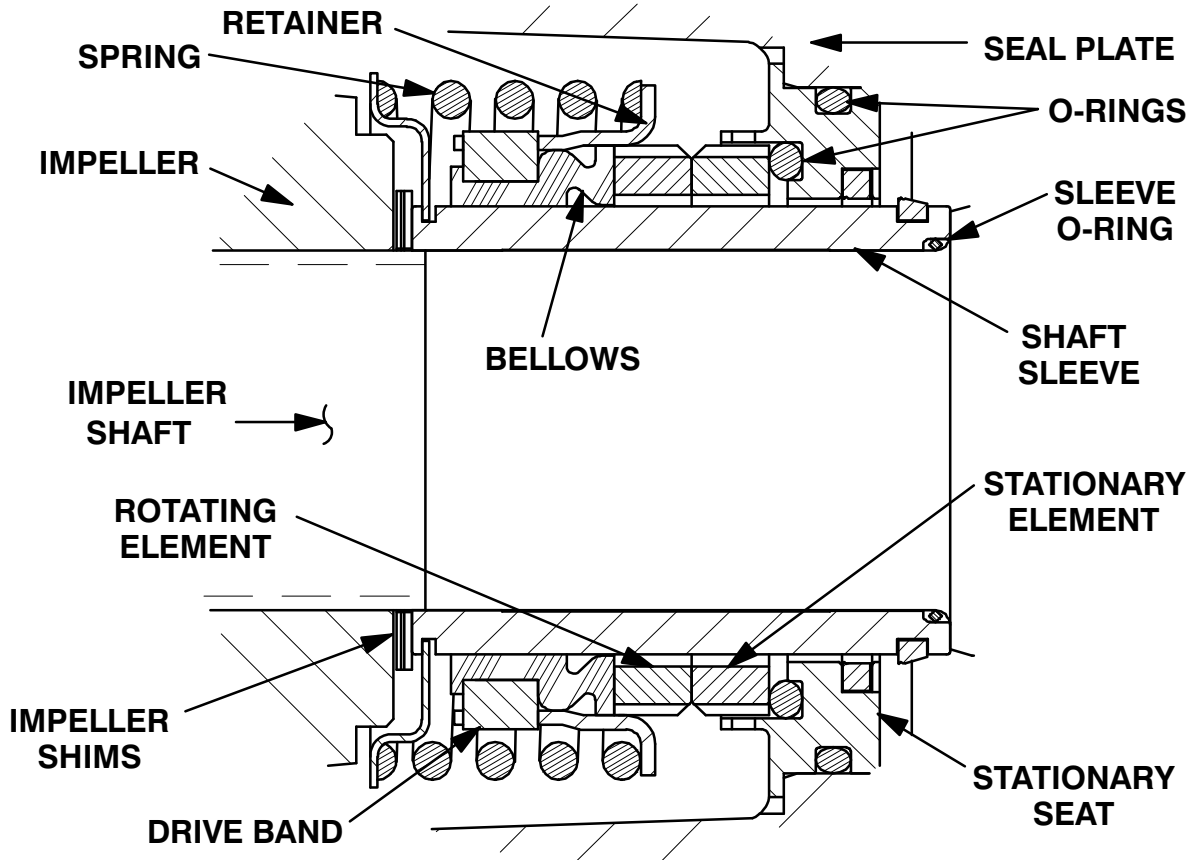

Figure 8. 46513-154 Cartridge Seal Assembly
sleeve O-ring (30) and the external stationary seat O-ring with a very **small** amount of light lubricating oil. See Figure 8 for seal part identification.